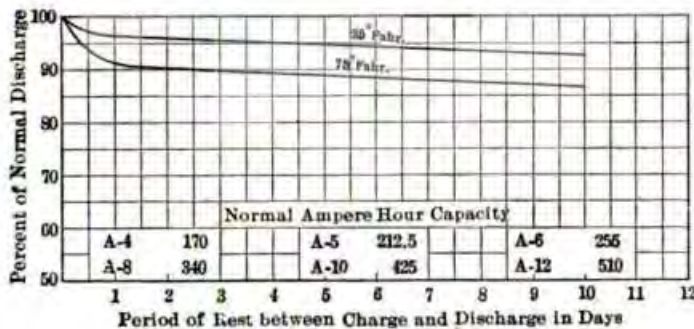

FIG. 58.—Loss of capacity.
**220. Standing discharged.** No injury is done to the Edison battery if it is completely discharged and allowed to stand in this condition. This is one of the principal distinguishing features of the Edison battery. The cell, however, loses in capacity by standing as shown in Fig. 58, and is most easily brought back to its condition of full capacity by giving it a very considerable overcharge. The usual practice is to ship the Edison battery in a discharged condition, and it requires several cycles of charge and discharge to bring it to its full capacity.